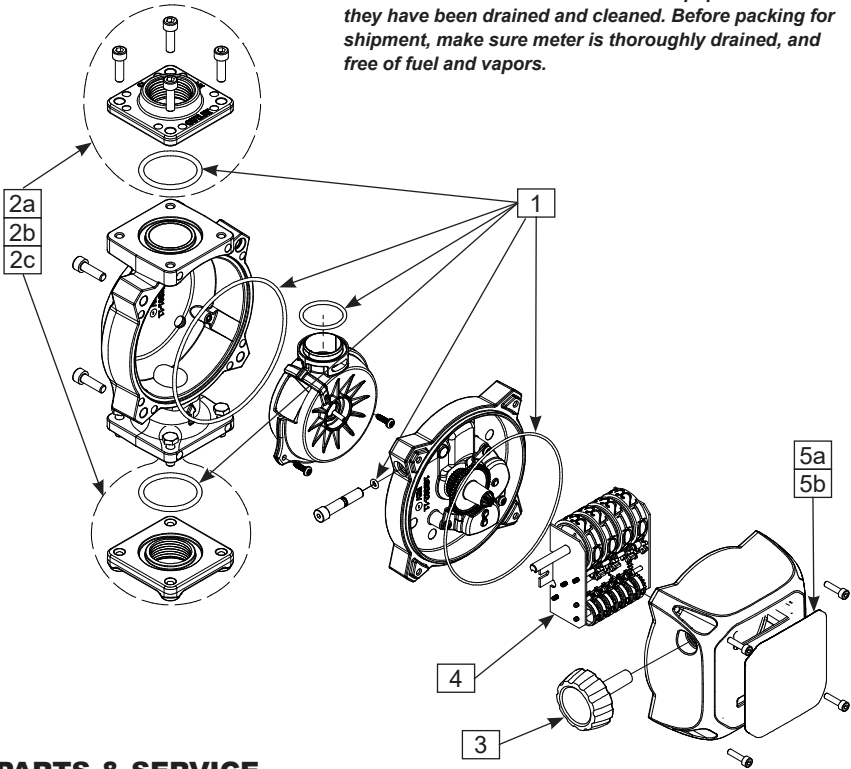

**Figure 1**
1. Turn the system off and disconnect from power. Remove the coverplate and O-ring, and inspect for damage (see Figure 1). If O-ring is damaged, replace.
2. Remove (2) register screws and register from cover plate. Clean register with a soft-bristled brush and solvent. If the register is very dirty, compressed air may be used. Replace register.
3. Remove the gearplate and O-ring from the backshell, and inspect for damage (see Figure 1). If O-ring is damaged, replace.
4. Remove (2) nutator assembly screws and nutator assembly from back shell. Clean nutator assembly with a soft-bristled brush and solvent. If the nutator assembly is very dirty, compressed air may be used. Replace nutator assembly.